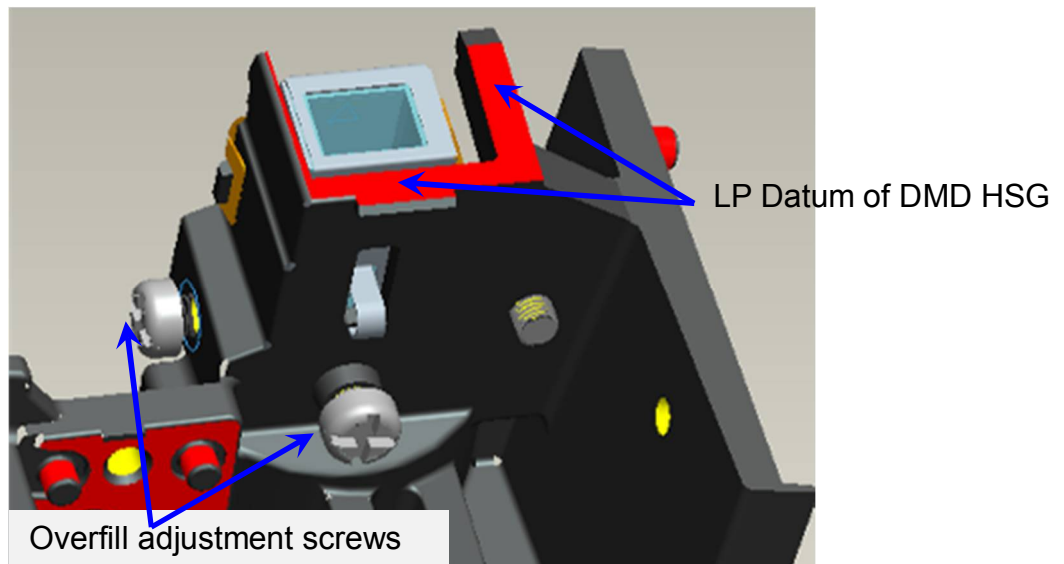

Fig. I-5
- iv. Placed LP Module on LP datum of “DMD HSG” and adjustment screw well (Fig. I-5).